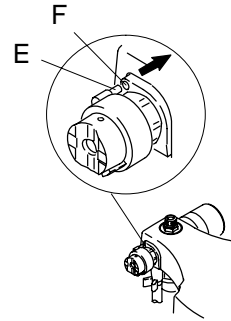

Fig. 4
- Replace brown o-ring (3) on end of valve stem. Apply sealant (6) to valve threads. Install valve stem in pump manifold. Torque to 185 in-lb (21 N-m).
7. Fig. 4. Install base (C) on valve (D), aligning pin (E) on base with hole (F) on pump manifold.